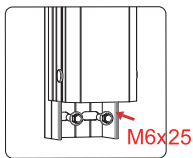

Fig.6
3. Please fix bottom hole of the arm (back channel) on the car. See Fig.6 & 7